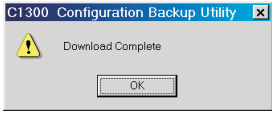

Fig. 3.7 Restoring a Configuration
- 6 Restore the configuration – see Fig. 3.7.